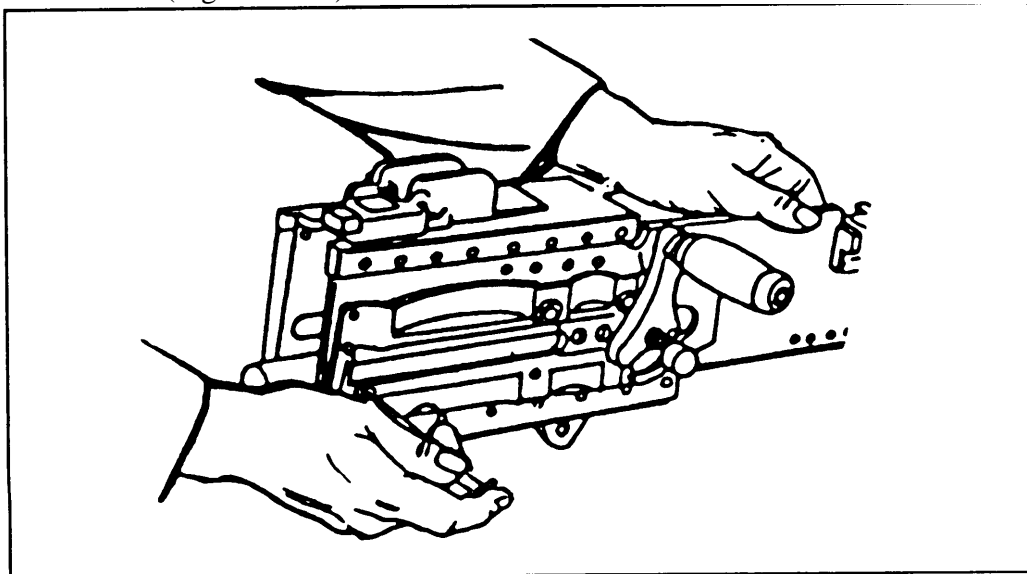

Figure 2-12. Removing barrel buffer group and barrel extension group.
f. **Barrel Buffer Body Group and Barrel Extension Group.** Insert the drift of a combination tool, or other pointed instrument, through the hole in the lower rear corner of the right sideplate. Push in on the barrel buffer body lock. At the same time, place one hand in the receiver and push the barrel extension group and barrel buffer group to the rear (Figure 2-12). Remove the barrel buffer group and barrel extension group from the receiver. Separate the two groups by pushing forward on the tips of the accelerator (Figure 2-13).